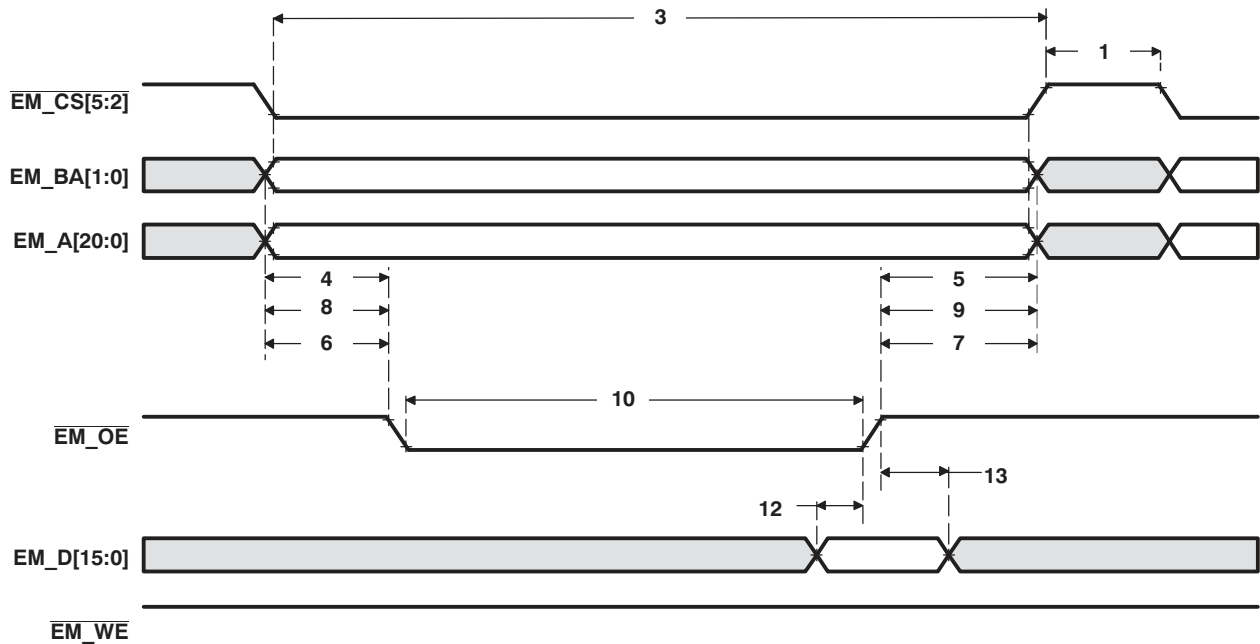
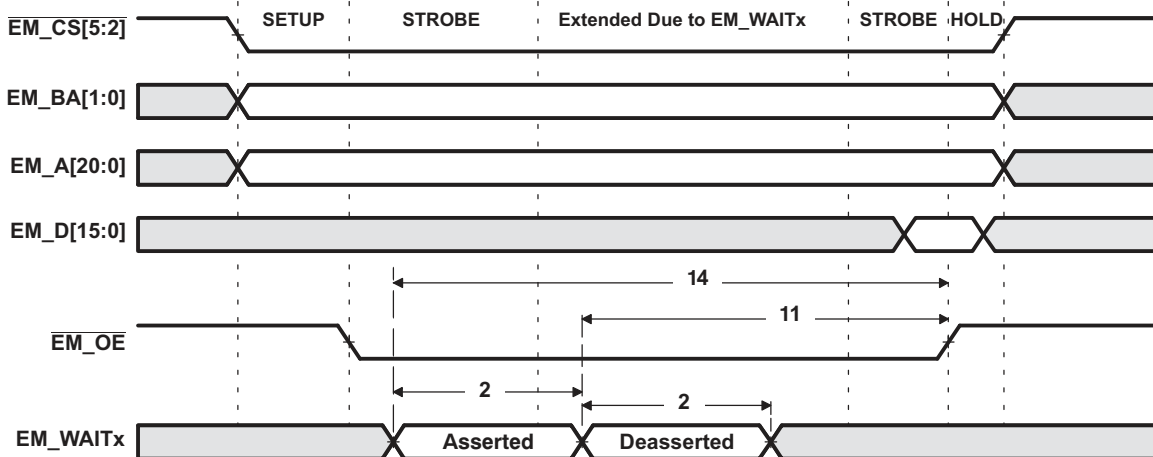
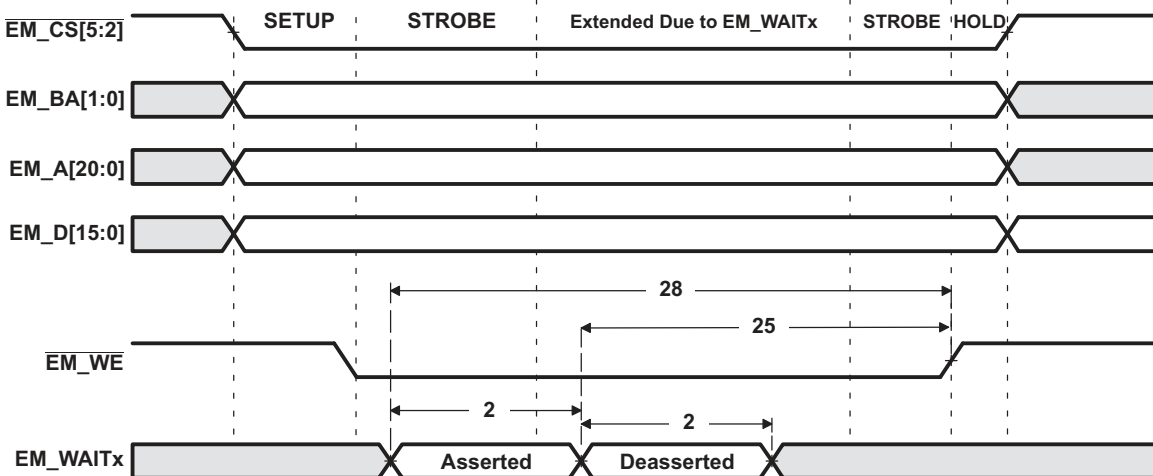

Figure 5-24. Asynchronous Memory Read Timing for EMIF
Figure 5-26. EM_WAITx Read Timing Requirements
Figure 5-27. EM_WAITx Write Timing Requirements
- (1) Timing parameters are obtained with 10pF loading on the EMIF pins.
(2) E = SYSCLK period in ns. For example, when SYSCLK is set to 75 or 200 MHz, E = 13.33 or 5 ns, respectively.
(3) Setup before end of STROBE phase (if no extended wait states are inserted) by which EM_WAITx must be asserted to add extended wait states. Figure 5-26 and Figure 5-27 describe EMIF transactions that include extended wait states inserted during the STROBE phase. However, cycles inserted as part of this extended wait period should not be counted; the 4E requirement is to the start of where the HOLD phase would begin if there were no extended wait cycles.
(see Figure 5-24, Figure 5-26, and Figure 5-27)
(see Figure 5-24, Figure 5-26, and Figure 5-27) (continued)
⁽⁴⁾ (see Figure 5-24, Figure 5-26, and Figure 5-27)
(⁴) (see Figure 5-24, Figure 5-26, and Figure 5-27) (continued)**